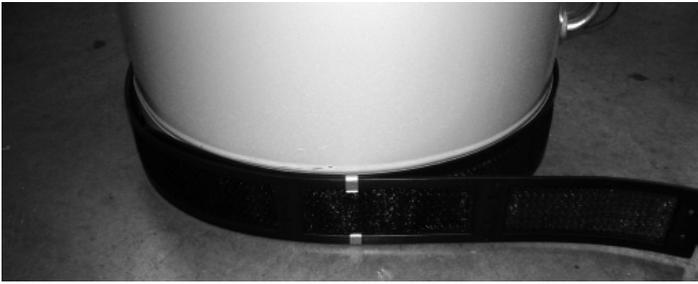

Figure 7
3. Wrap the filter snugly around the base of the water heater (See Figure 7).
4. Use the metal clips provided in the filter kit to join the sections to form a circle. See Figure 7. Any excess filter material may be trimmed away.